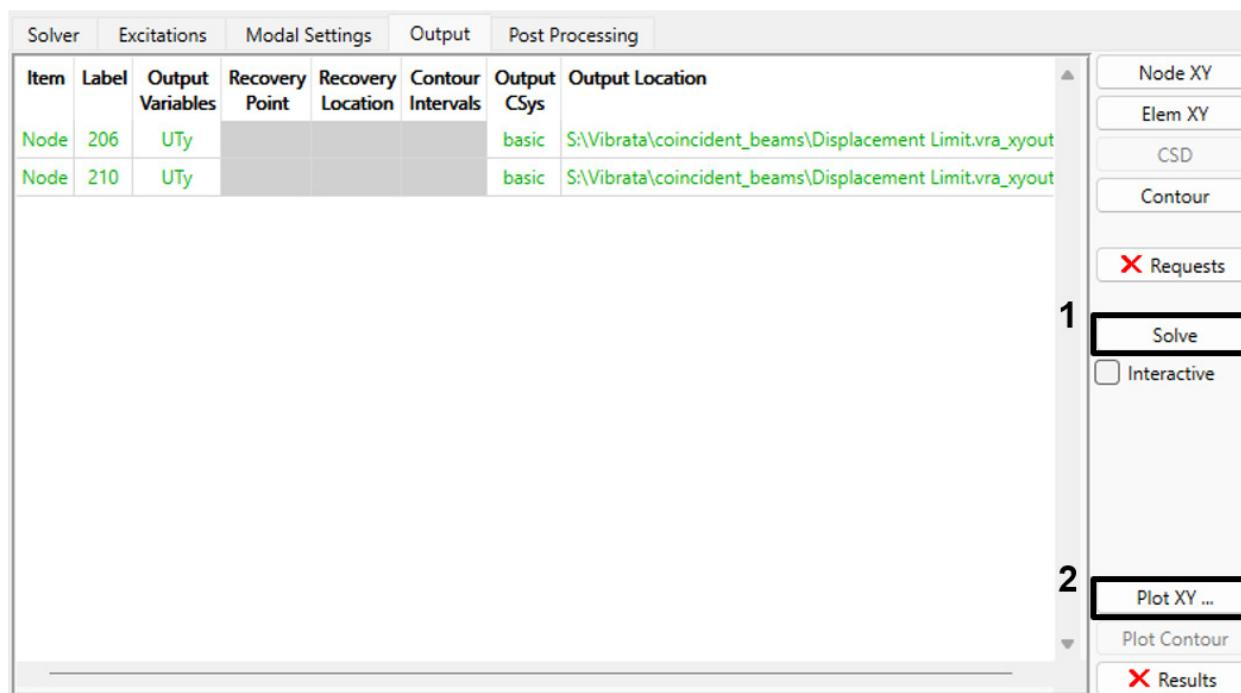
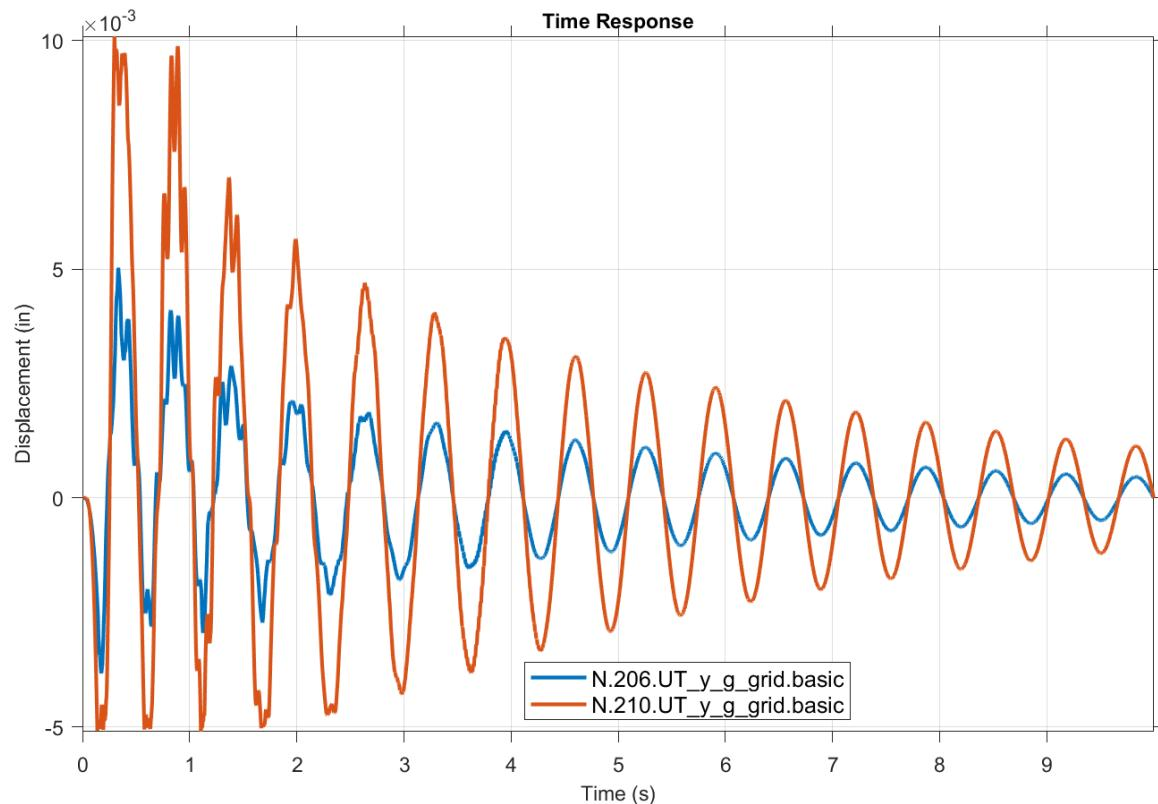

Figure 4-135. Solve the model and then plot the XY results.
Figure 4-136. The XY results demonstrate that the relative displacement at DOF 206Y and 210Y were restricted to the limits specified for the solve.
11. Solve for the relative displacement output by clicking the **Solve** button on the Output tab. Once the solve is complete (Figure 4-135), plot the results by clicking the **Plot XY...** button. Figure 4-136 shows the expected results. Notice that the 210Y displacement is limited to approximately 0.01" and -0.005". The displacement exceeds these limits slightly because the restoring stiffness is finite and the displacement is limited using a restoring force proportional to the overshoot distance. Also observe that DOF 206Y also exceeds its prescribed limits slightly, indicating that the displacement limit is working at this location as well.